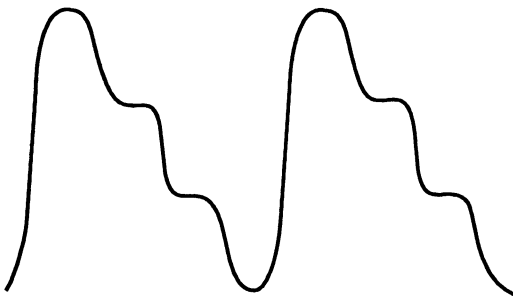

Figure 23. Non-inverting Receiver: Correct Polarity
- If it looks like Figure 23 the polarity is correct, continue with step 10.